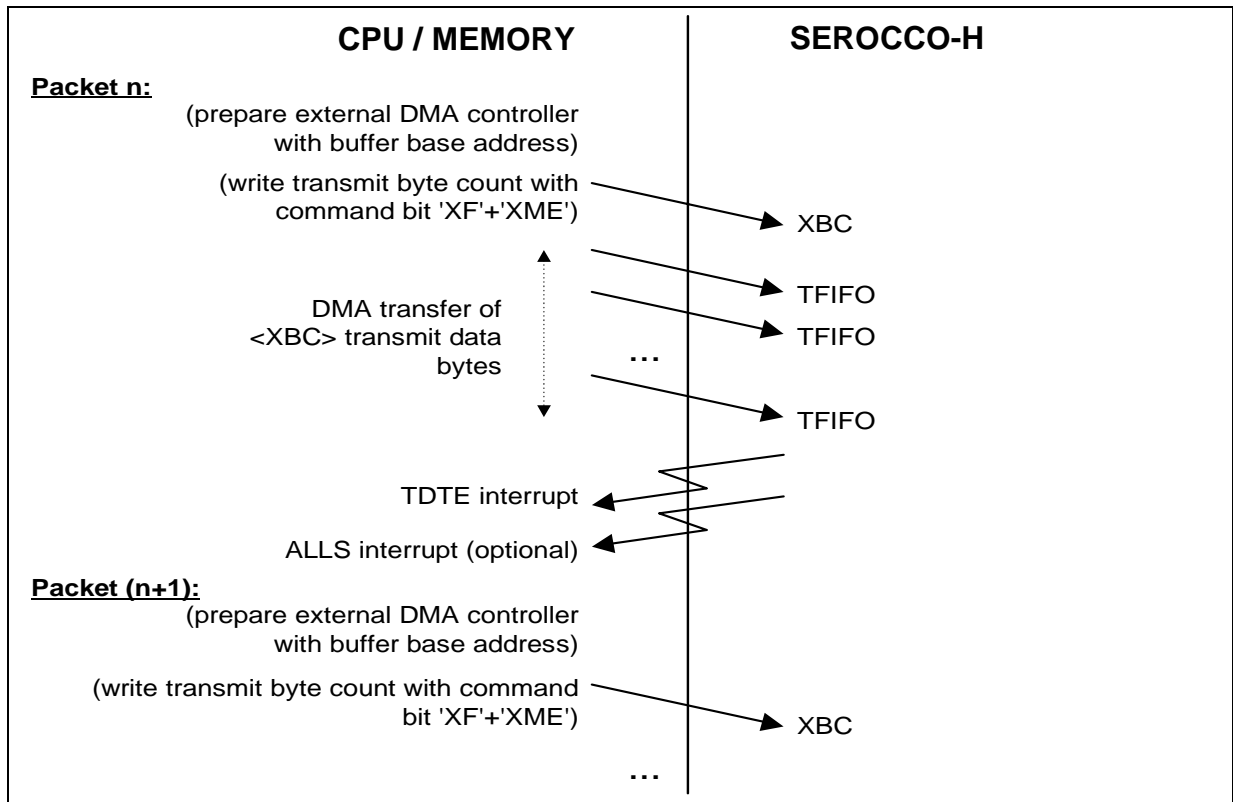

Figure 55 DMA Transmit (Single Buffer per Packet)
- If the prepared transmit buffer in memory contains a complete packet, the start command for DMA transmission is issued by setting bits 'XF' and 'XME' in register XBCH to '1'. The DMA support logic will request the external DMA controller to transfer data into the XFIFO. After the last byte has been transmitted, the protocol machine appends the trailer (e.g. CRC and Flag in HDLC), if applicable. The Transmit DMA Transfer End (TDTE) interrupt is generated (refer to Figure 55).